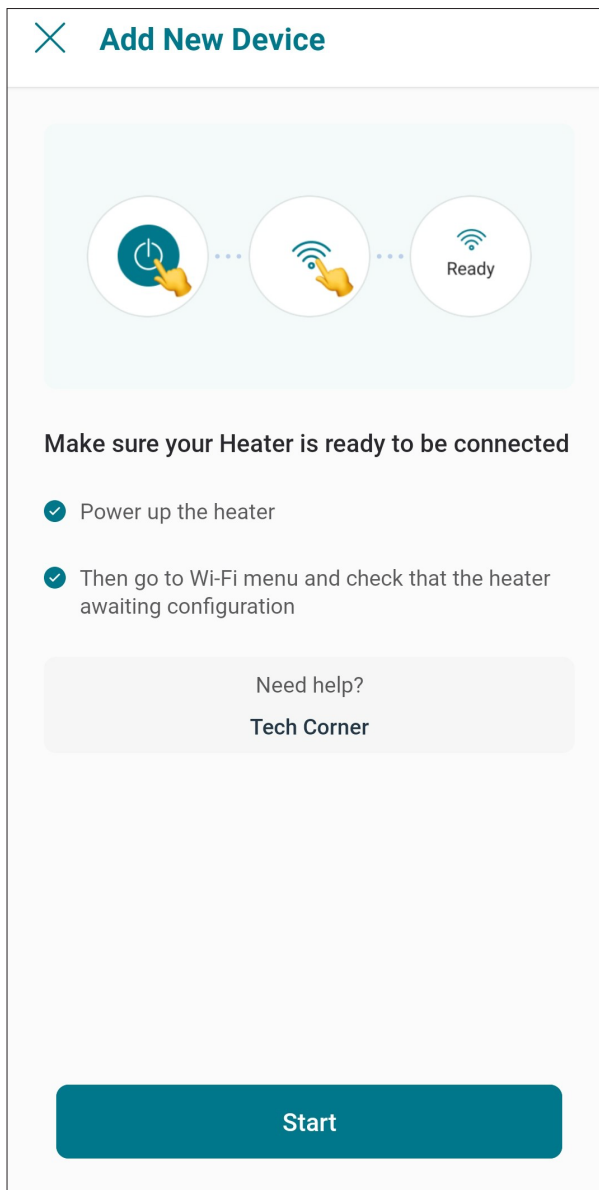

Figure 115. Check your Unit
- "Check your Device" screen will appear. Ensure to have the heater powered and Wi-Fi signal available in the area, then press "Ready" button. See **Figure 115**.